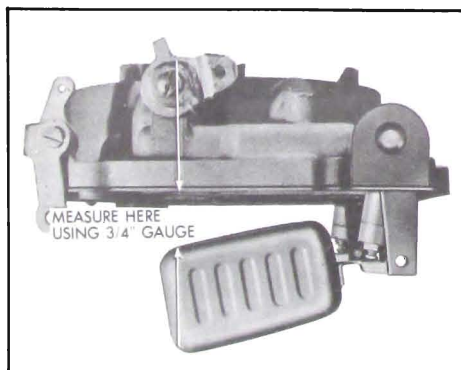

Figure 3-75—Checking Float Drop
11. Adjust Float Drop. With air horn held in upright position, measure vertical distance from air horn gasket to outer end of each float using a scale. Bend float arm tang as required to obtain $3/4$ " measurement. See Figure 3-75.